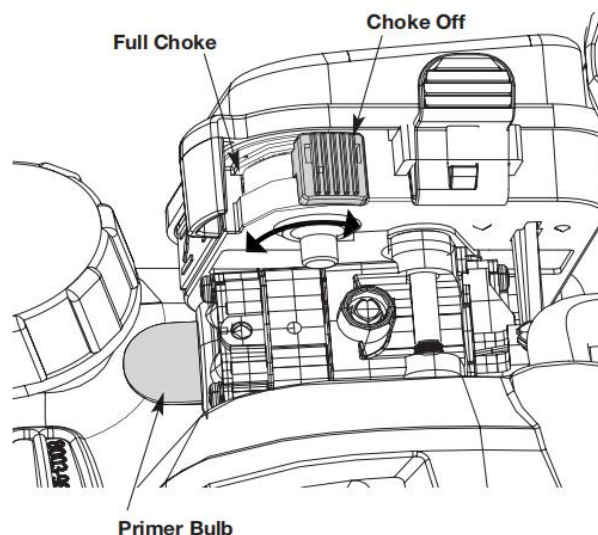

Fig. 6
- d) Slowly press the primer bulb 10 times (Fig. 6).
- e) Move the choke lever to the Full Choke position (Fig. 6).